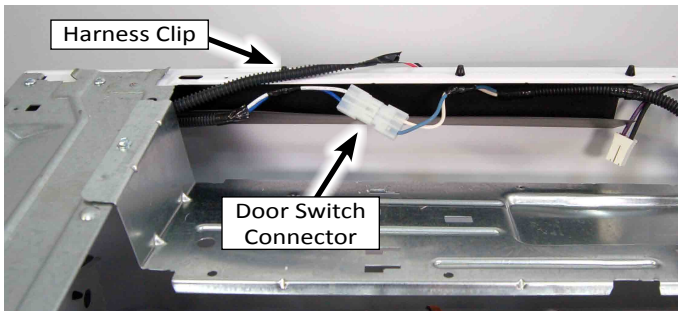

Figure 2
4. Disconnect the door switch connector and unclip door switch harness from the side panel as shown in Figure 2.